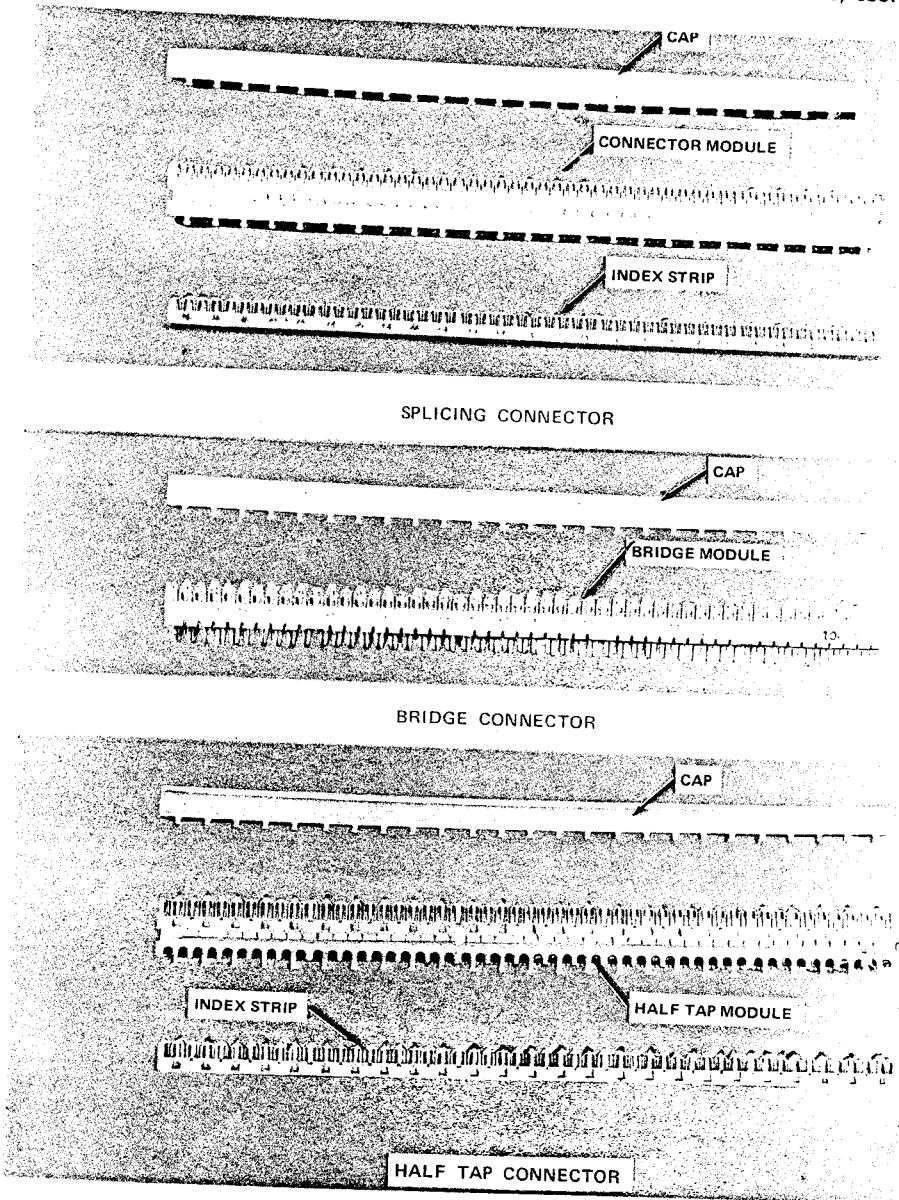
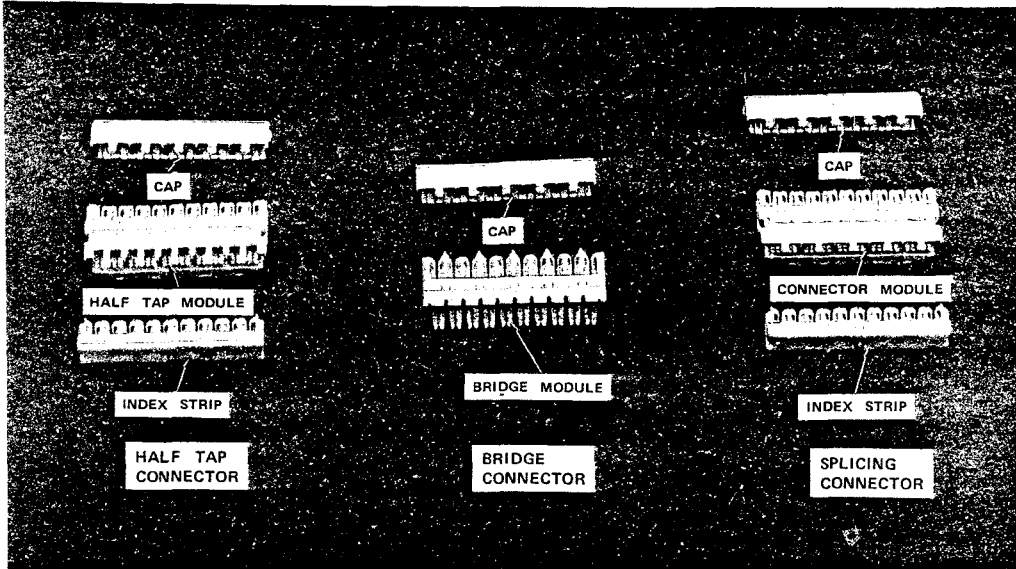

Fig. 1—710 Connector (25 Pair)
Fig. 2—710 Connector (5 Pair)
3.01 The three types of 25-pair and 5-pair 710 connector modules are illustrated in Fig. 1 and Fig. 2 respectively. The 25-pair 710 connector modules are used to splice 25 pair or more. The 5-pair 710 connector is used for splicing small size terminal stubs in pedestals, rehabilitation, and to splice service wires in splice closure. The 5-pair 710 connector components are identical to the 25-pair components except they are shorter. The connector modules are used as follows: